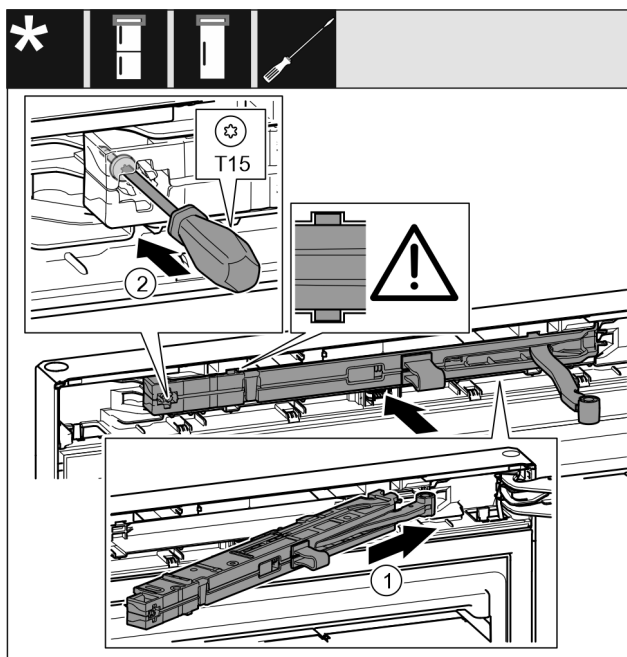

Fig. 69
- ▶ On the swap bearing block side, slide the closing damper unit Fig. 69 (1) into the recess at an angle up to the stop.
- ▶ Use a screwdriver to tighten the screw Fig. 69 (2).